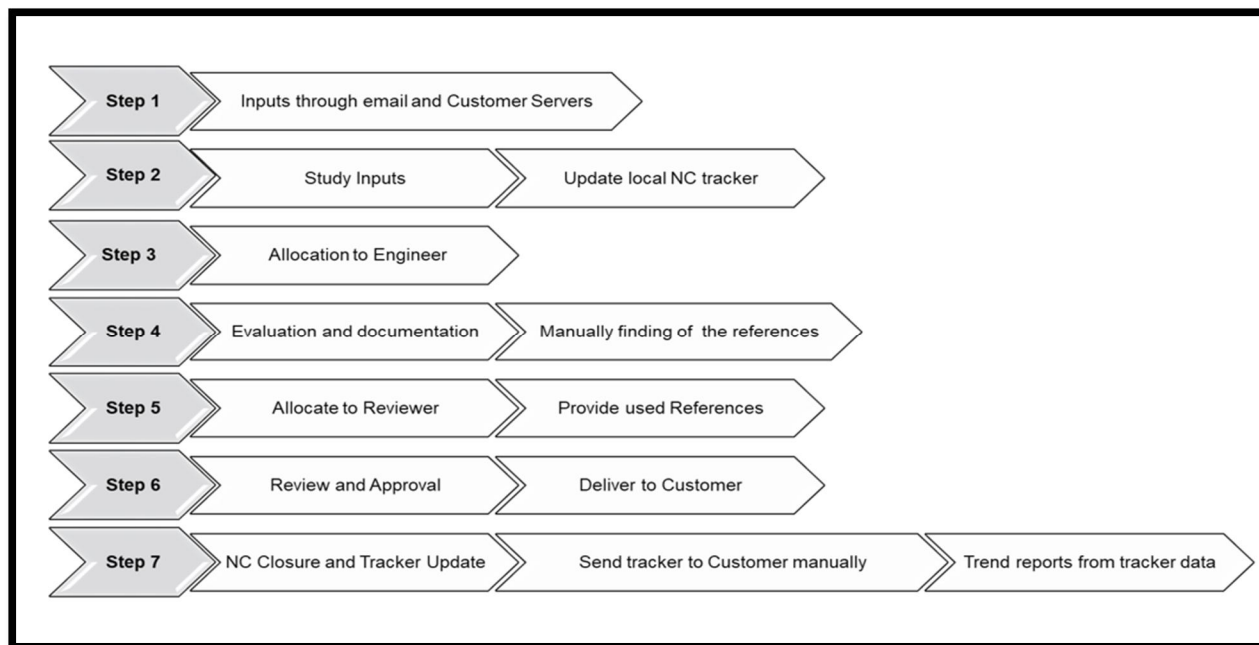
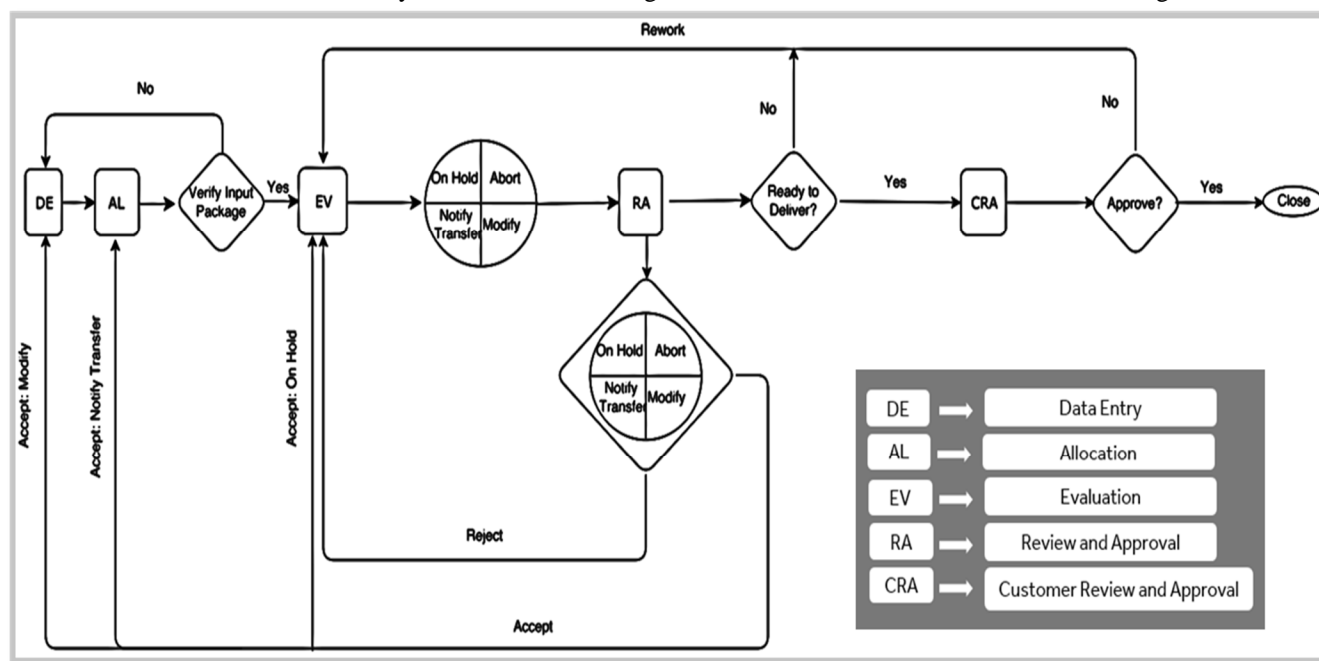
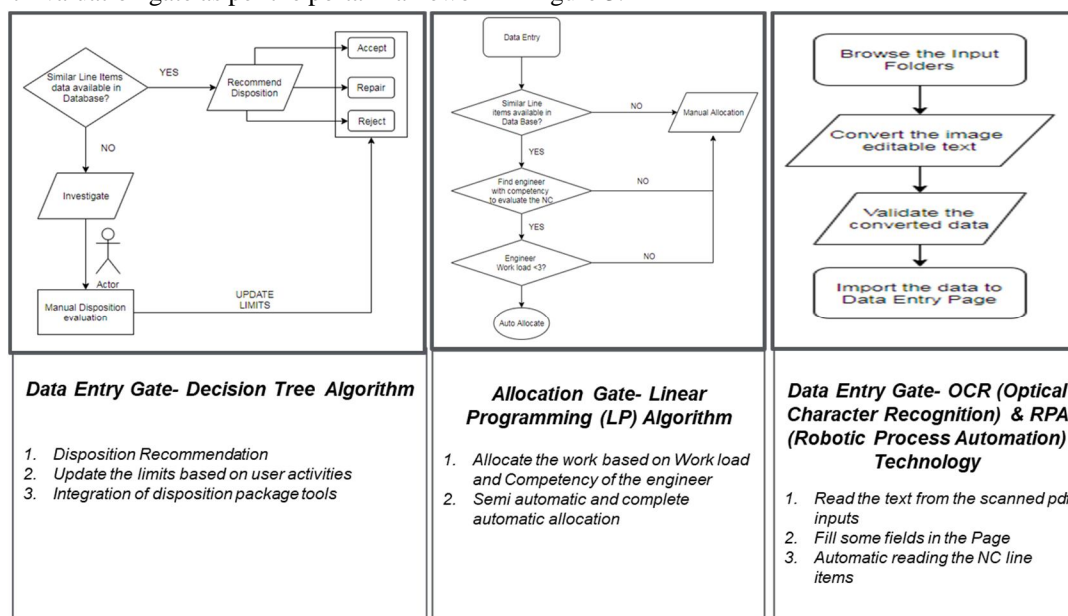

Figure 1: Non-conformance Manual Workflow and Processes
Figure 3: Framework showing Workflow Gates of the Portal
Figure 4: Technologies implemented and in progress to enhance Digital Portal framework
Several standard procedures are followed manually as shown in Figure 1 as part of Non-conformance disposition, project management, and communication between stakeholders. Details of each step shown in Figure 1 are as follows:
The digital solution framework is in line with the manual process as per Figure 1 but more robust and foolproof with gated reviews and feedback mechanisms as shown in Figure 3. The Digital solution feedback mechanisms work with E-mail notifications and alerts to keep the stakeholders informed all the time. The whole web-based portal is designed to "Analyze-Dispose-Report-Monitor" complete Non-conformance workflows and processes. In addition to the workflow gates, the Portal is enhanced with Dashboard, Reports, and Search gates which optimize the digital solution further to address many more challenges encountered in the manual process as listed earlier. The functionality and features of these gates would be further discussed in the following sections.
Workflow gates are designed considering all the Project execution and Project management requirements. As per the Digital workflow framework shown in Figure 3, all the processes are organized and tagged to relevant stakeholders with Gated reviews resulting in reduced lead time. We would now discuss these workflow gates in coming sections to understand the impact of Digital workflow in execution lead time reduction and many other process benefits in project management, monitoring, and control aspects.
- 1) Data Entry is the first gate where we feed the Non-conformance data into the empty fields provided in the portal. This data becomes part of the extensive database that we use later as historical data and can be harvested in several ways for rule-based dispositioning, auto allocation of associates, data analysis with trend reports, dynamic search options, and relaxation studies. For some of the recurring Non-conformances, this gate has integrated tools to dispose of directly, in a few cases it auto feeds the required fields from inputs like CMM (Coordinate Measuring Machine) data and even suggest the acceptance criteria from historical data using decision tree models as shown in Figure 4. Integrated tools automatically evaluate and create all the required disposition documents, stack-up analysis, supporting evaluation documents, and checklist to make the complete delivery package without going to further execution gates. Some of the new technologies adopted for a few processes are shown in Figure 4 as flowcharts. Once Data entry is done the Non-conformance moves to the next Allocation step in the workflow as shown in Figure 3.
- 2) Allocation Gate is the next stage after Data Entry is done by the associate to allocate for evaluation (as part of Evaluation Gate explained next) and review (as part of Review and Approval Gate explained in a later section) the Non-conformance. It can be done manually by a lead engineer or can be auto allocated by an algorithm that picks up the most qualified associate by checking his previous history on who executed similar Non-conformance, who is having less workload, and who is available in the particular department. The algorithm applies linear programming to suggest the appropriate associate as per his competency and current availability as shown in Figure 4. Once assigned the engineer needs to verify the package for the inputs and submit it to the next Evaluation gate as per the portal framework in Figure 3.
- 3) Evaluation gate is the next stage wherein the allocated engineer dispositions the Non-conformance with all the available references, integrated tools, and templates provided by the portal which are already tagged to respective Non-conformance as needed. This saves considerable time in terms of searching for references and previous acceptance criteria. The evaluation gate also has a feedback mechanism as shown in the workflow in Figure 3 to Hold, Notify transfer, Abort or Modify before going to Review and approval gate. This feedback would be further reviewed and necessary actions are taken at the next Gate or previous gates to avoid any turnbacks in the final delivery. The received feedback also goes as an E-mail notification to the concerned stakeholders so that no one slips out the alert raised in the portal.